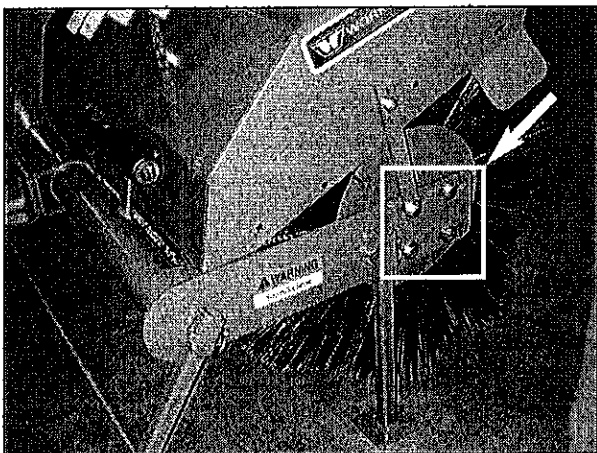

Figure 26
5. Check the left hand end of the brush head and make sure the 4 bolt bearing is positioned the same as the right hand end (chain end). When positioned correctly, tighten the four bolts. (Figure 26)